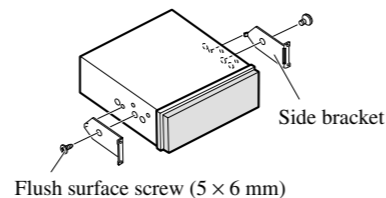

Fig. 8
2. Install side brackets. (Fig. 8)